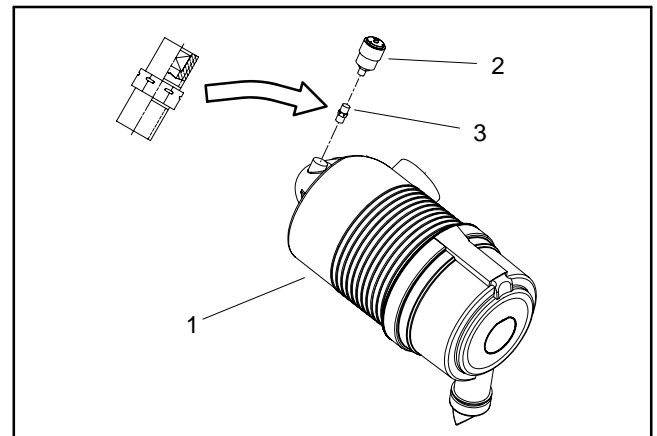
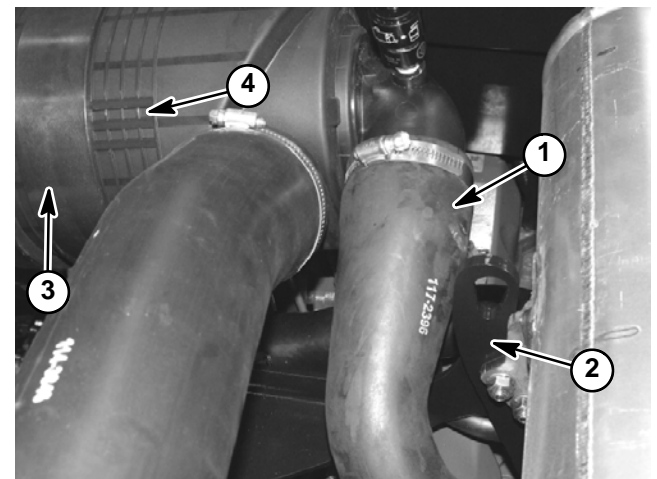

Figure 3
Figure 4
A. If service indicator (item 4) and adapter (item 15) were removed from air cleaner housing, apply thread sealant to adapter threads before installing adapter and indicator to housing. Install adapter so that grooves in adapter hex and adapter filter element are installed toward service indicator (Fig. 3). Torque indicator from **12 to 15 in-lb (1.4 to 1.6 N-m)**.
B. When securing air cleaner in air cleaner strap, tighten cap screws (item 14) only enough to prevent air cleaner from rotating in strap.
2. When installing air cleaner hose (item 1) between air cleaner and turbo-charger (Fig. 4):